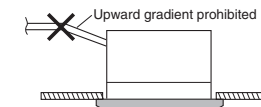

Fig. 3-28
- Do not install the pipe with an upward gradient from the connection port. This will cause the drain water to flow backward and leak when the unit is not operating. (Fig. 3-28)